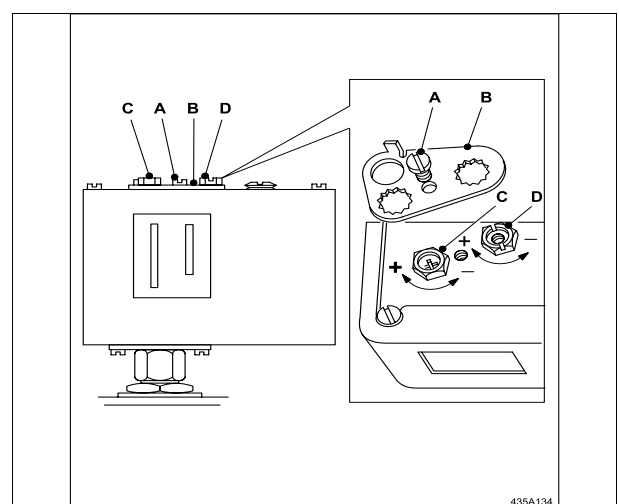

Fig. 17 - Differential Pressure Switch Adjustment
9.2 Pressure Switch Fig. 17
- Remove screw (A) and keyplate (B), for maximum line pressure adjust screw (C) until the scale indicates 7.5 or 10.5 bar, this is the high or cut out pressure. For differential pressure adjust screw (D) until the scales indicates between 1.0 and 1.5 bar (factory setting), this is the minimum, low or cut in pressure.
- Adjust screw (C) until the 'MAX' scale indicates 7.2 bar. This pressure should not be exceeded.
- Adjust screw (D) until the 'DIFF' scale gives required differential.